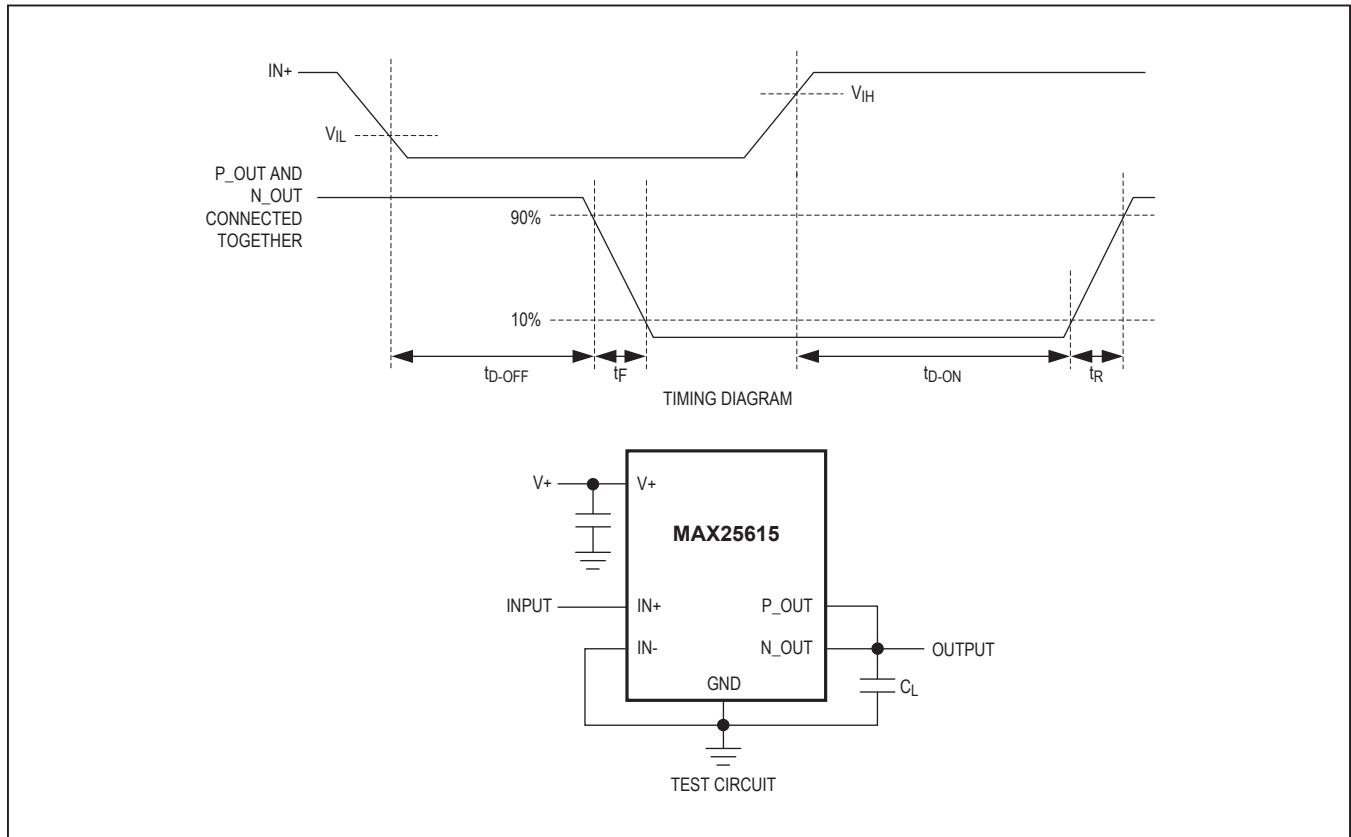

Figure 1. Timing Diagram and Test Circuit
(V+ = +12V, CL = 0F, TA = TJ = -40°C to +125°C, unless otherwise noted. Typical values are at TA = +25°C. see Figure 1.) (Note 3)
SWITCHING CHARACTERISTICS FOR V+ = +12V (Figure 1)
SWITCHING CHARACTERISTICS FOR V+ = +4.5V (Figure 1)
**Typical Operating Characteristics**(CL = 1000pF, TA = +25°C, unless otherwise noted. See Figure 1.)
( $C_L = 1000\text{pF}$ ,  $T_A = +25^\circ\text{C}$ , unless otherwise noted. See Figure 1.)